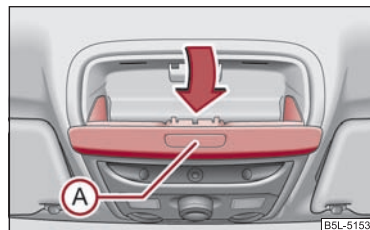

Fig. 91 Detail of the headliner: Storage compartment for spectacles
- Press the button  ⇒ fig. 91, the storage compartment folds down. ▶